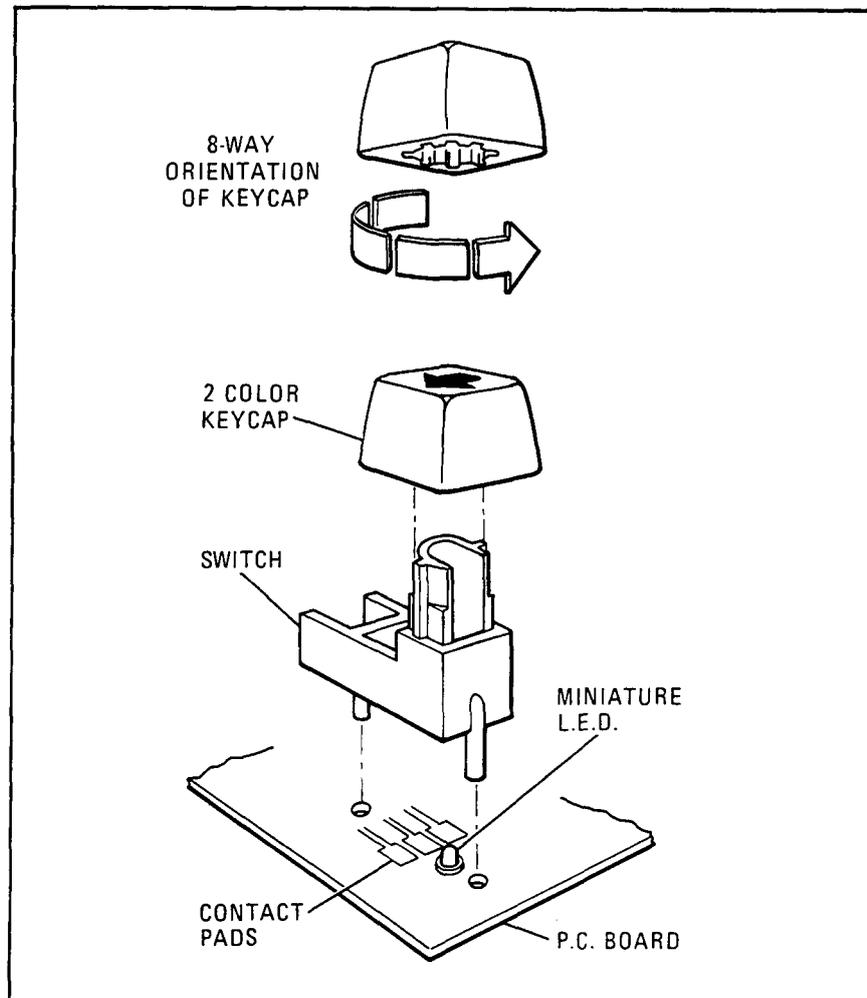

Figure 8F-1. Front-Panel Pushbutton Key Assembly
5. For reliable operation, any method of assembly must assure that the switch is mounted tightly against the pc board. To facilitate the heat staking operation, specially molded support anvils (HP 5040-6881) can be ordered. Refer to Figure 8F-2.